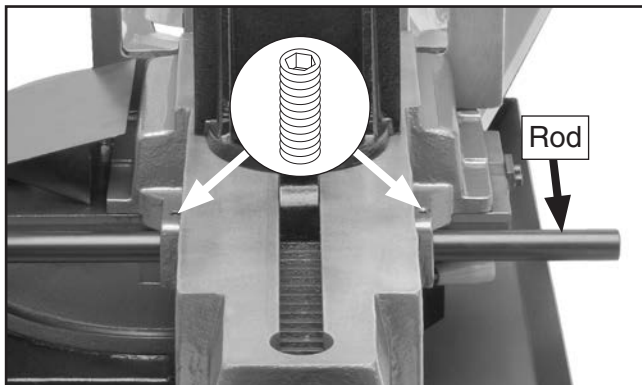

Figure 54. Location of rod and set screws.
- Loosen (2) set screws shown in **Figure 54**, slide rod toward other side of vise base, then tighten set screws to secure rod location.